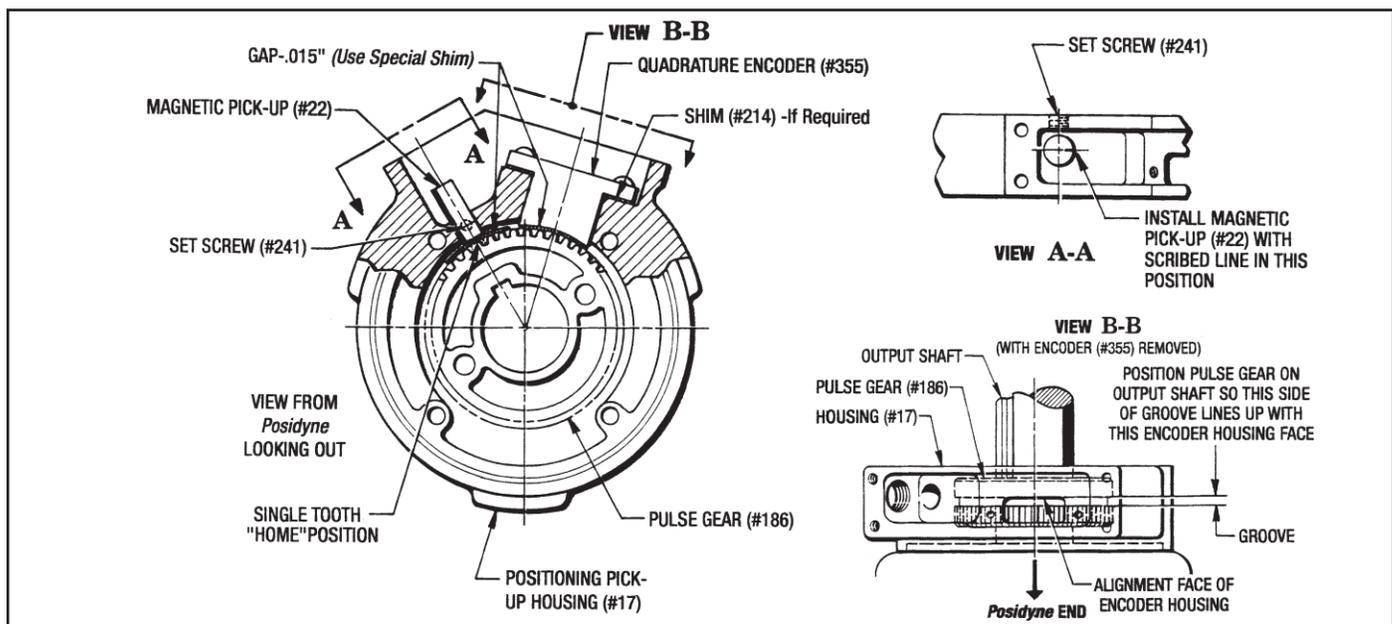

Figure 9.9 - Position Sensors Installation
A. QUADRATURE ENCODER (See Figure 9.9)
- Check the Gap between the Pulse Gear and the Encoder with the Special .015" Shim that you made. If necessary, remove the Encoder and place Shims (#214) under the Encoder. (Usually .015" is sufficient.) Re-attach the Encoder and re-check the Gap. (See Figure 9.9)
B. MAGNETIC PICK-UP SENSOR (See Figure 9.9)
- Insert the Magnetic Pick-Up Sensor (#22) into the hole with the **Scribed Line** in position as shown in Figure 9.9, View A-A.